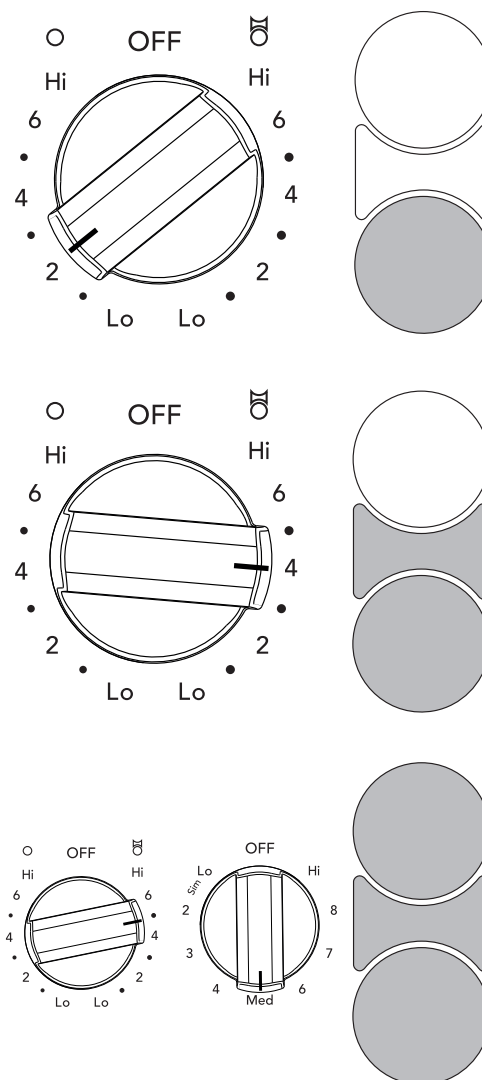

Figure 9: Bridge element knob settings
2. Push in and turn the control knob to the circular element symbol for regular cookware or to element and bridge symbol for extended cookware designed for use on multiple elements (see Figure 9).